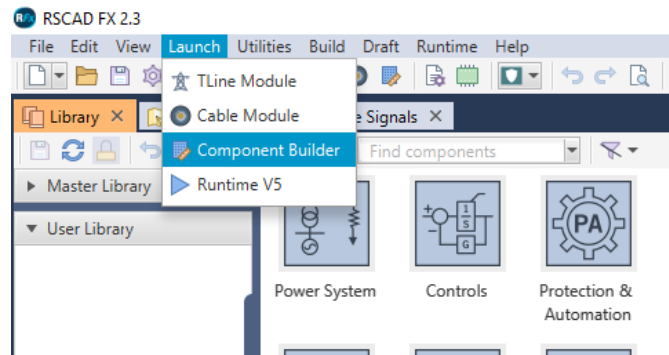
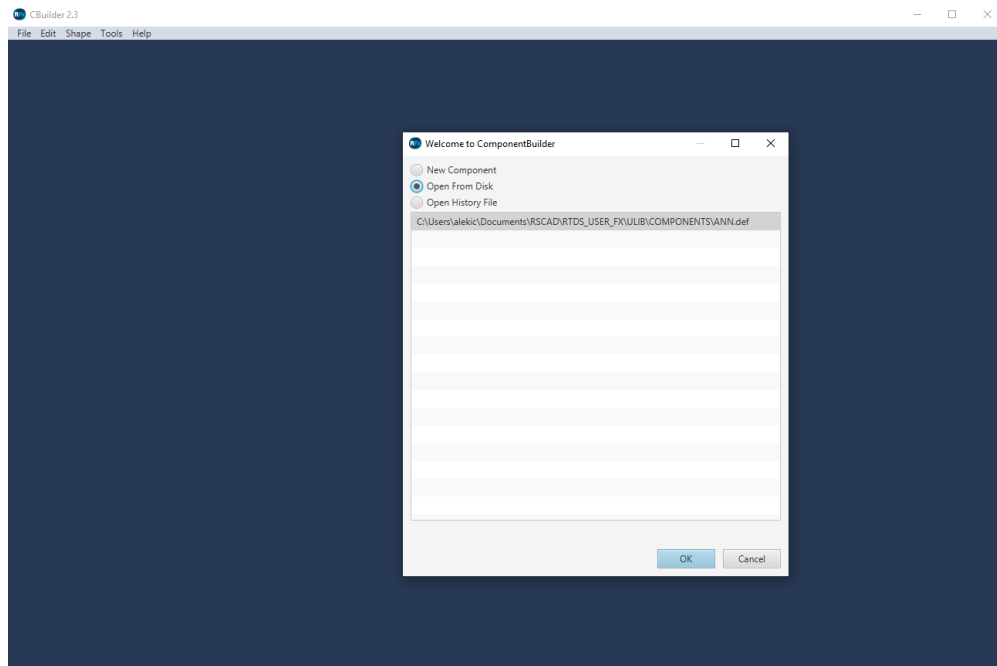

Figure 1.8: Component Builder launch.
Figure 1.9: Open component.
3. In the toolbar: Go to **Launch>Component Builder** as seen from Fig. 1.8 and then in the CBuilder open window select **Open From Disk** as seen from Fig. 1.9 and select .def file from `.\RSCAD\RTDS_USER_FX\ULIB\COMPONENTS` folder.